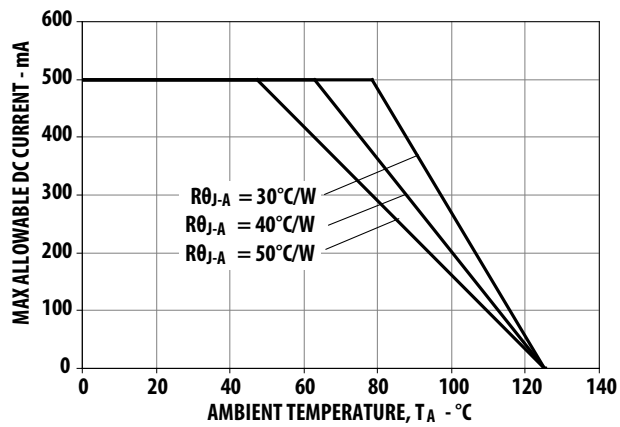
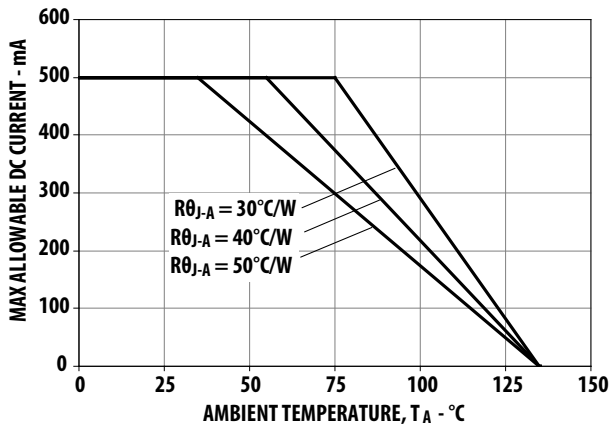

Figure 10. Maximum Forward Current vs. Ambient Temperature. Derated based on TJMAX = 125°C, RθJ-A = 30°C/W, 40°C/W and 50°C/W.
Figure 22. Maximum Forward Current vs. Ambient Temperature.
- Derate linearly based on Figure 10 for AlInGaP and Figure 22 for InGaN.